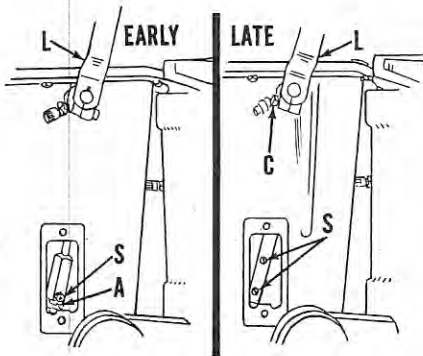
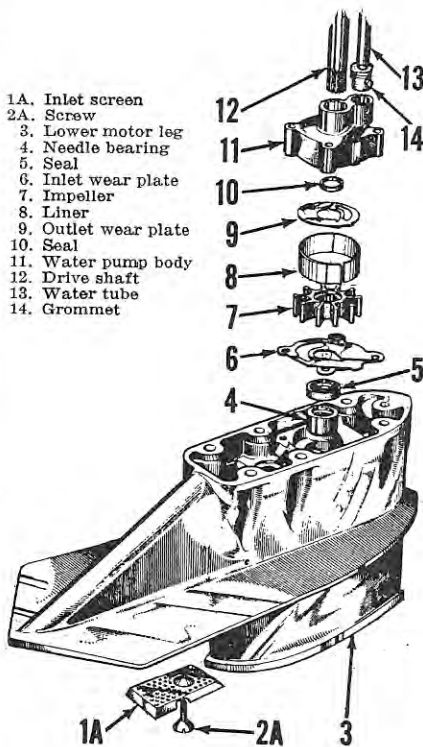

Fig. H25—Upper motor leg with shift linkage access plate removed. Models before Serial Number 1,400,000 are shown on left.
Fig. H26 — Exploded view of lower motor leg showing water pump and associated parts.
LOWER MOTOR LEG AND WATER PUMP. The lower motor leg can be detached from the upper leg for service on the water pump, without removing gearcase from lower leg. Before attempting to detach the unit, remove the access plate from starboard side of upper motor leg and loosen the clamp screw (S—Fig. H25) on early models; or remove the two screws (S) on late models; to separate the shift linkage. Loosen the six socket head cap screws retaining lower motor leg to upper leg. Remove two screws on each side of leg, and back the two remaining screws out about 1/8-inch. The water pump will be damaged if drive shaft (12—Fig. H26) is permitted to remain with the power head and upper motor leg. Working through access hole where shift linkage was disconnected, make sure that drive shaft is free in power head coupling splines. Remove the two remaining securing screws and withdraw the lower leg with drive shaft in place.
On all models push down on shift link by reaching through access hole in upper leg and turning propeller shaft make sure clutch dogs are fully engaged in forward gear. The shift lever (L—Fig. H25) should be centered between the alignment notches on flange of upper leg. On early models, adjust by loosening the set screw (S) to properly position the lever. (Note: It may sometimes be necessary to back off the two adjusting nuts "A"). With lever properly positioned, tighten the set screw, then lock the nuts (A) against bottom of coupling.